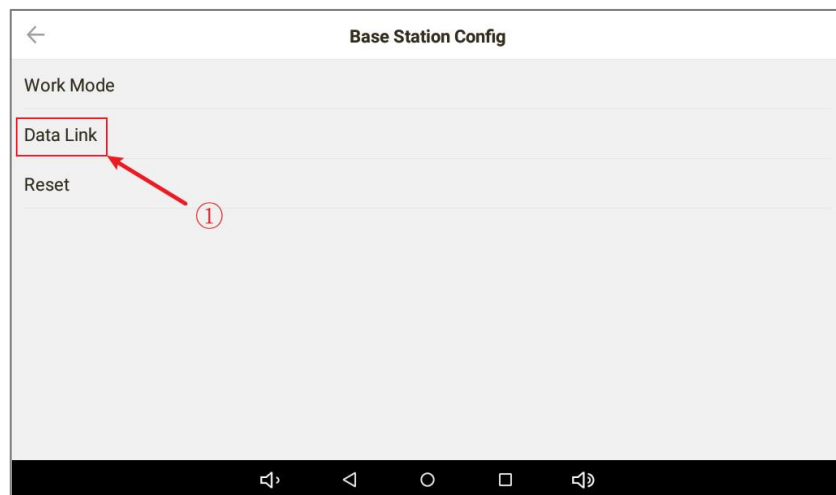
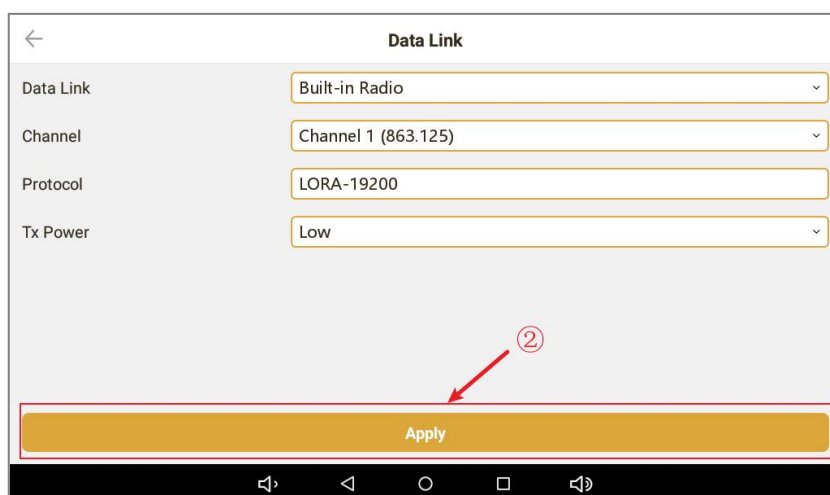
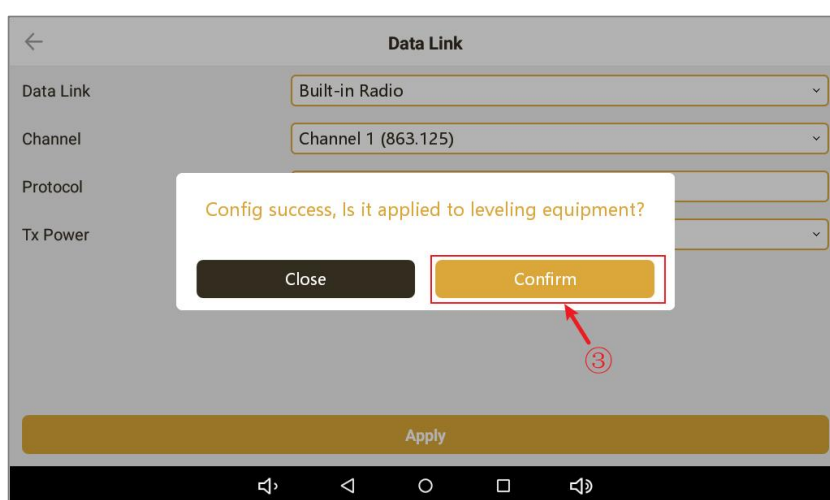
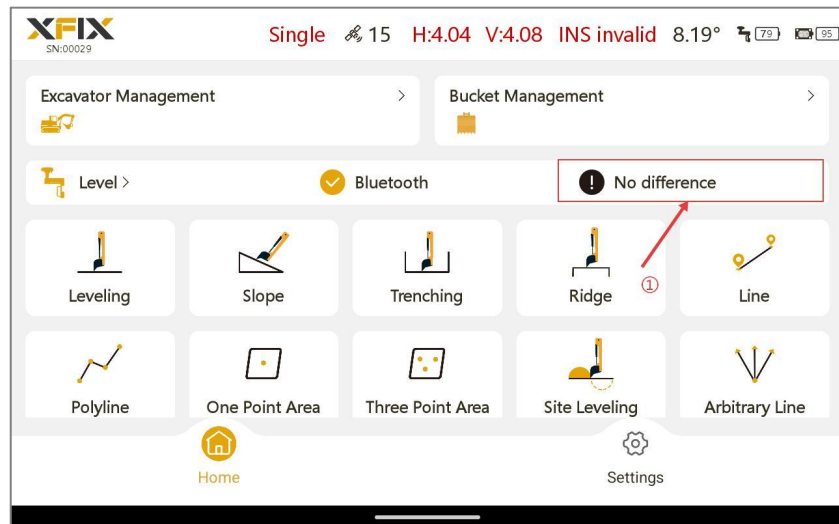

Figure 2-10
Figure 2-11
Figure 2-12
Figure 2-13
- ⑤ Configure the radio: Tap 'Data Link', as shown in Figure 2-10, to enter the 'Data Link' screen, then tap 'Apply' at the bottom, as shown in Figure 2-11. In the pop-up window 'Config success, Is it applied to leveling equipment?', tap 'Confirm', as shown in Figure 2-12.
- ② Configure the leveling instrument independently: Perform step 1 in the simultaneous configuration section (1) to connect to the leveling instrument via Bluetooth. Return to the Home screen, tap the differential setting item 'No Difference', as shown in Figure 2-13, then tap 'Difference Source' and select 'Built-in Radio'. Choose the radio channel that matches the base station, then tap 'Apply' as shown in Figure 2-11. The leveling instrument configuration is now complete.